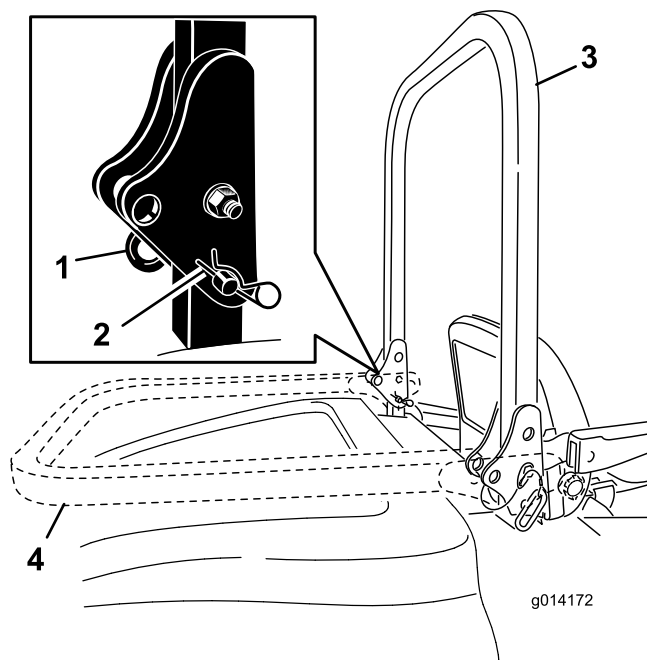

Figure 8
1. To lower the roll bar, remove the hairpin cotters, push the roll bar forward against the springs, and remove the two pins (Figure 8).
2. Lower the roll bar to the down position (Figure 8).
3. Install the two pins and secure them with the hairpin cotter pins (Figure 8).
4. To raise the roll bar, remove the hairpin cotter pins and remove the two pins (Figure 8).
5. Raise the roll bar to the upright position and install the two pins and secure them with the hairpin cotter pins (Figure 8).